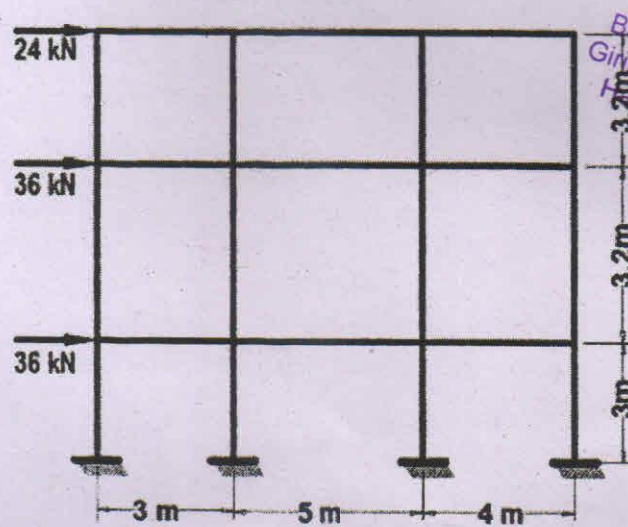

Figure 8
8. Consider the multi-storey frame subjected to lateral loads as shown in Figure 8. The frame is to be analysed using the portal method. Assume the frame is statically determinate and present your calculations and diagrams neatly. Also draw the bending moment diagram, shear force diagram, and axial thrust diagram. (15)